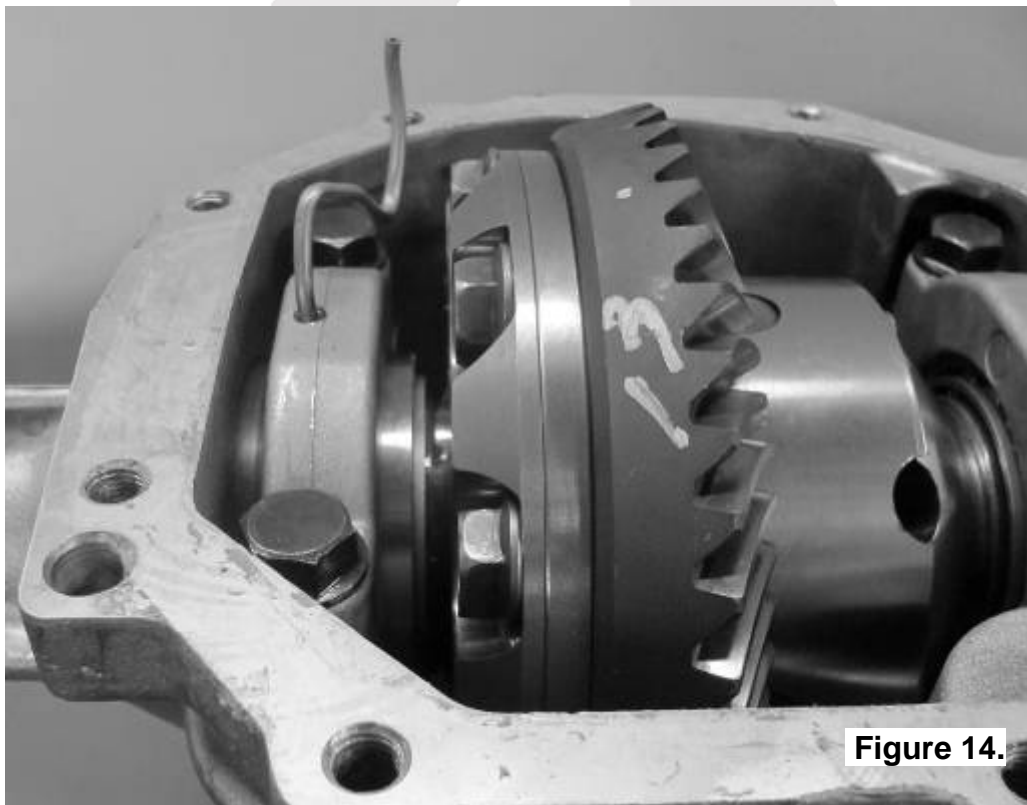

Figure 14.
- ☐ Without using sharp, jagged tools such as pliers (your hands are the best tool for this job), bend the seal housing tube downwards and then upwards as shown (Fig. 14. & 15.), so that it points out of the diff in line with the position of the bulkhead port in the cover plate. Assure that the tube adequately clears all moving parts of the differential assembly. Less than 10mm [3/8"] should be considered too little clearance.